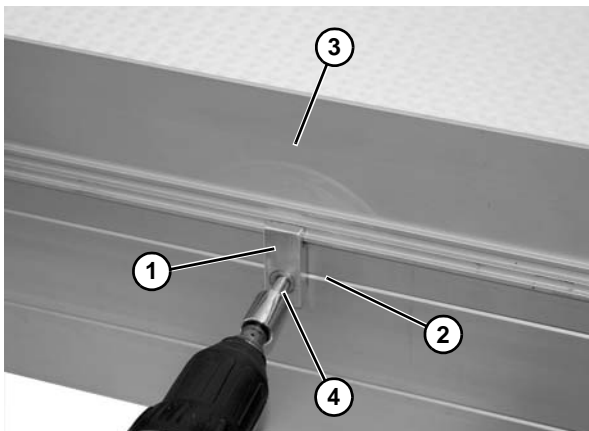

Figure 28
1. Lay out retaining clip (**Figure 28, item 1**) locations. The end clips should be no greater than 12" from end of the conveyor. Hole should line up with notch (**Figure 28, item 2**) in side rail.
2. Hold guide (**Figure 28, item 3**) and retaining clip (**Figure 28, item 1**) to conveyor side rail. Install self-drilling screws (**Figure 28, item 4**) following the "Proper Methods of Attachment to Side Rails" on page 12 procedure.